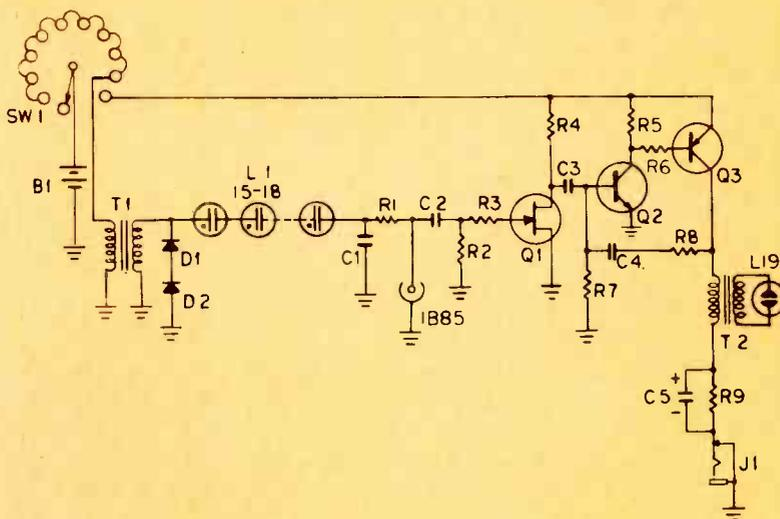
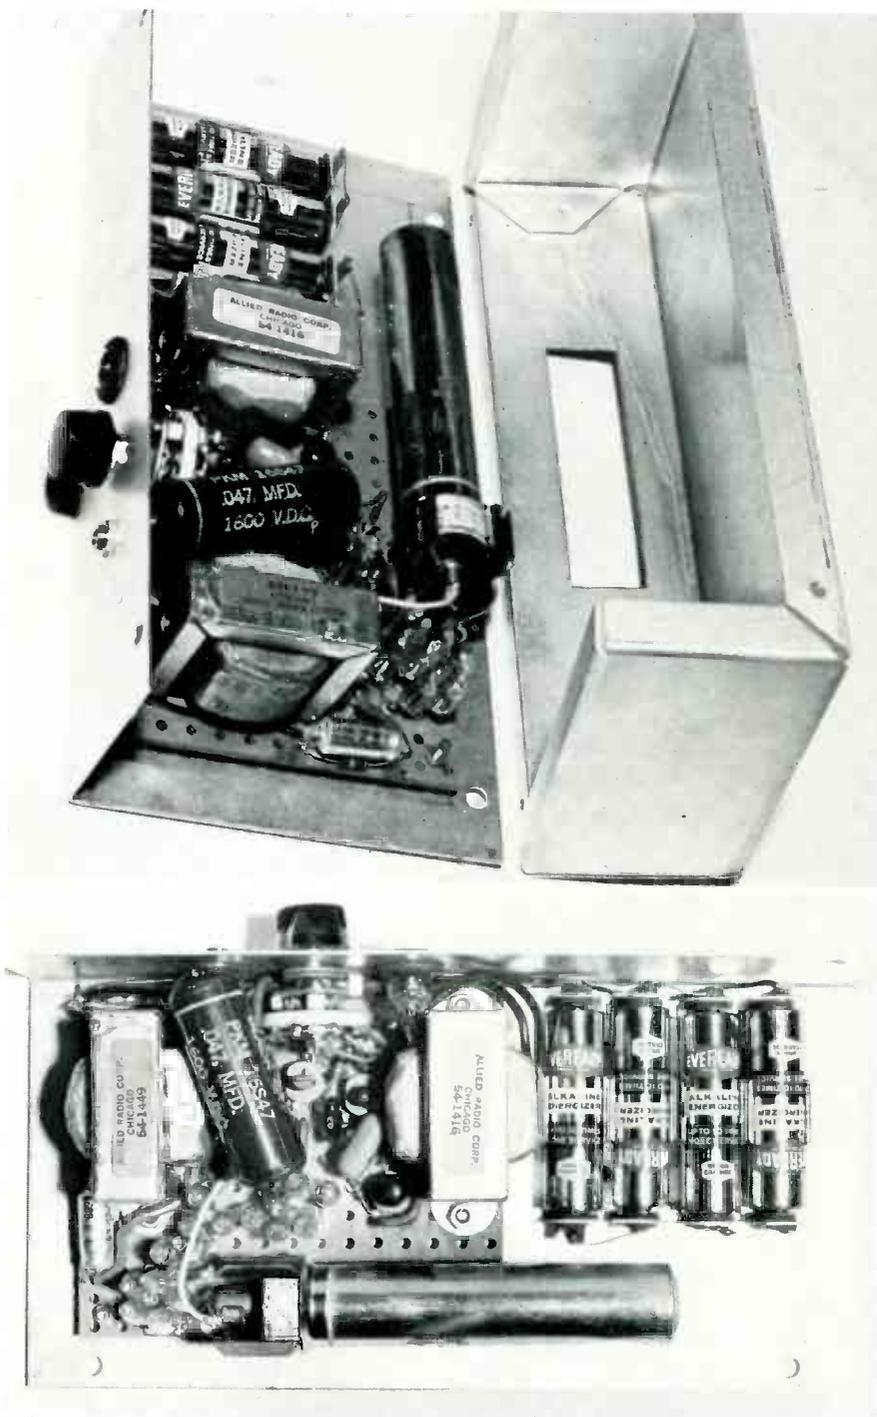
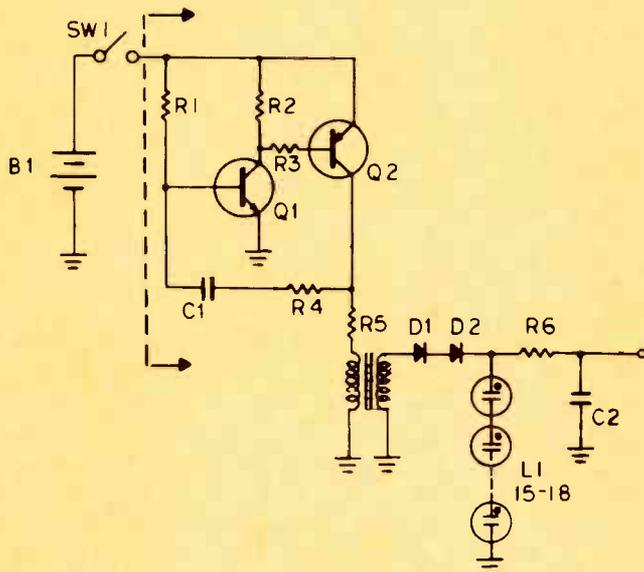
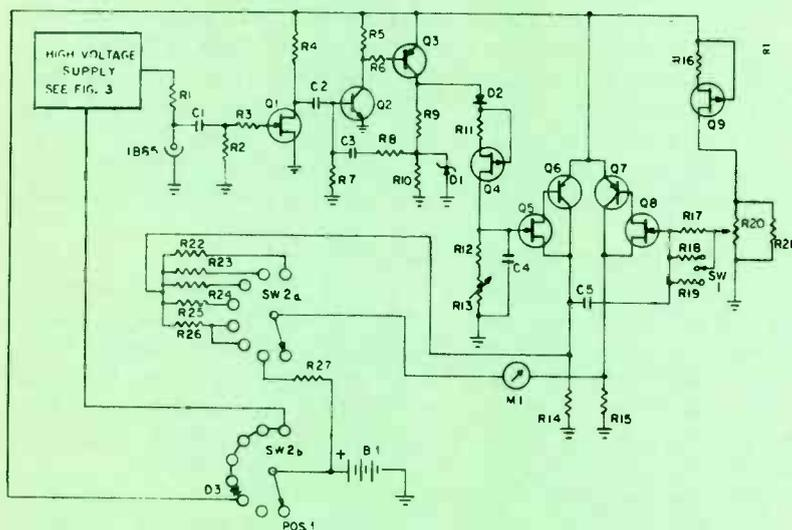

Fig. 1 Circuit diagram of circuit No. 1, a simple X-ray detection instrument.
Fig. 2 Two views of an instrument built using the circuitry diagrammed in Fig. 1.
Fig. 3 Oscillator high-voltage supply employed in circuit design shown in Fig. 4.
Fig. 4 Circuit diagram of Circuit No. 3, an X-ray detection device that provides more accurate measurement than the design shown in Fig. 1.
### Parts List For Circuit In Fig. 1
A very simple instrument is shown in Fig. 1. High voltage is developed by repetitively operating switch SW1. The transformer T1 can be selected from a wide range of filament, output, input, and interstage transformers that may be found in "junk boxes". Any of those shown on the parts list is adequate. Several operations of SW1 should suffice to charge capacitor C1 to its terminal voltage. Once capacitor C1 is charged, it will power the 1B85 for about an hour at background rates and over 10 minutes at 4000 counts per minute. This allows ample time to check a television set for radiation emission.
A neon lamp and an earphone are shown in Fig. 1 for readout. Either or both may be used. The transformer T2 can be selected from a wide variety of types, some of which are shown in the parts list. The earphone is a low-impedance type generally sold with transistor radios, tape players, etc. Most speakers will also work quite well. Fig. 2 shows one way to assemble the meter and the method of mounting the G-M tube.
For those who prefer not to operate a switch to obtain high voltage, the circuit of Fig. 3 will prove useful. This is not the most efficient circuit, but it does permit flexibility in the selection of components. The free-running multivibrator, Q1 and Q2, is quite similar to the one-shot multivibrator (MV) shown in Fig. 1. In fact, the only difference is that R7 in Fig. 1 is deleted and replaced by R1 in Fig. 3. R1 is selected so that Q1 conducts slightly. This slight conduction sends a signal through Q1 collector to Q2 base and hence through Q2 collector back to Q1 base. This positive feedback action turns Q2 on hard until C1 is fully charged and positive feedback action stops, at which time Q1 and Q2 turn off and the cycle is repeated. The on-
#### Parts List For Circuit In Fig. 3
and off times of this circuit are not necessarily equal. With a fixed C1, the on time is determined primarily by R4 and the repetition rate by R1. The transformer is more critical than the one in Fig. 1 because Q2 cannot interrupt current as quickly as a mechanical switch nor can it supply as much current to the transformer as the switch.
All the circuits, including the one in Fig. 4, should be enclosed in and grounded to a metal box since they are sensitive to electro-magnetic fields, especially that caused by the horizontal output circuit in a television receiver. A rectangular hole is cut in the side so that the G-M tube is exposed. The hole should be  $2\frac{3}{4}$  by  $\frac{3}{4}$  inch. If any RF sensitivity is evident, the hole may be covered with one layer of aluminum foil glued in place. It is recommended the high-voltage section be located as far from the input circuitry as possible.
As previously mentioned, provision should be made on the circuit board for 18 NE2 lamps. The high-voltage circuit should work with all 18 lamps in series. The G-M tube should not be connected to the high voltage until the entire circuit is finished. At this time, 5 of the NE2 lamps should be shorted out with a jumper so that 13 are in series (applies to either version of the high-voltage circuit), the G-M tube should be inserted, and the circuit turned on (operate SW1 in Fig. 1 circuit). The high voltage should be too low, and there will be no output indicated on either the NE2 or earphone. The circuit should then be turned off, the jumper reconnected to place 14 NE2 lamps in series, and the circuit turned on. This should be repeated, increasing the number of neons by one each time until an output indication is obtained from background radiation. It will be necessary to wait up to 15 seconds to determine if the tube is counting since the background count rate is low and random. One more NE2 should be added in series after counting starts.
A word of caution: the high-voltage capacitor should not be shorted when it is charged and transistor Q1 (Figs. 1 and 4) is in the circuit. The resulting sudden change
The circuit shown in Fig. 4 is capable of more accurate measurement of G-M tube counting rate. The power supply shown in Fig. 3 is used to generate the high voltage. The transistor Q1 and monostable multivibrator Q2 and Q3 are as previously described except for a change in the collector circuit of Q3.
#### Parts List For Circuit In Fig. 4